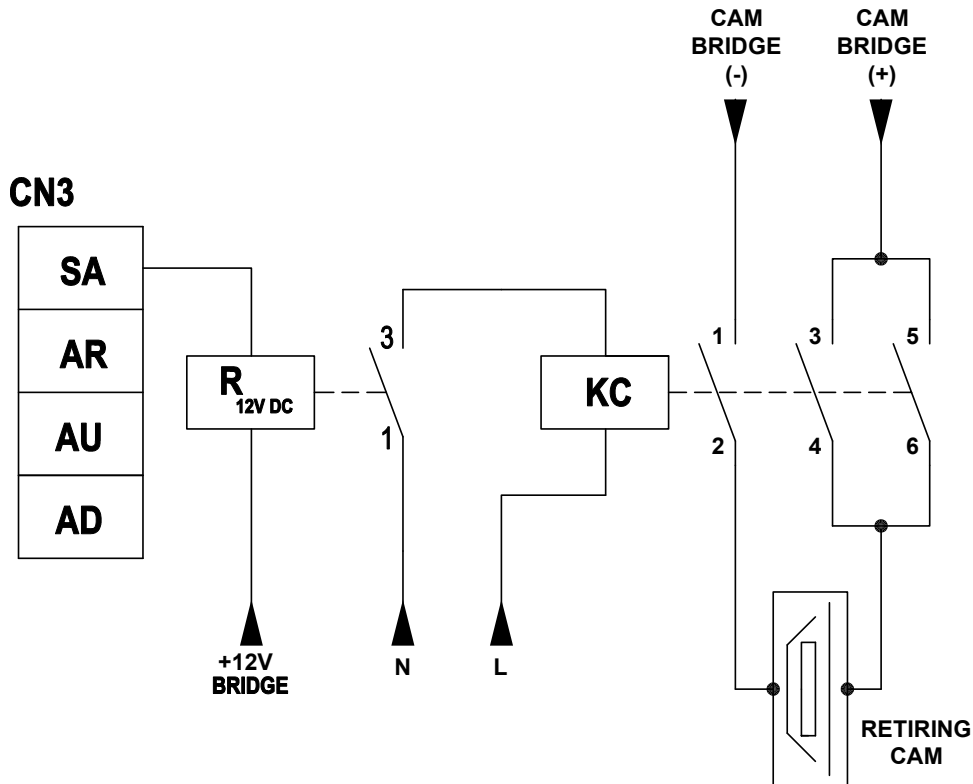

Figure 12.0 - Single-Phase Semi-Automatic Door Connections
The terminals of the Single-Phase Semi-Automatic Door are wired and connected as illustrated in Figure 12.0 and section 3.10.
- An external relay (12V DC) is used to connect the CAM contactor and SA terminal (CN3) on the XC-12 series board as illustrated in Figure 12.0.